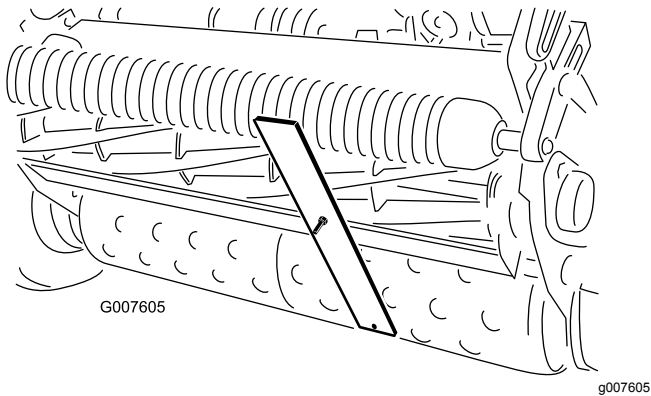

**Figure 55**
3. Loosen the nut on the gauge bar (Figure 55) and set the adjusting screw to the desired height-of-cut. The distance between the bottom of the screw head and the face of the bar is the height of cut.